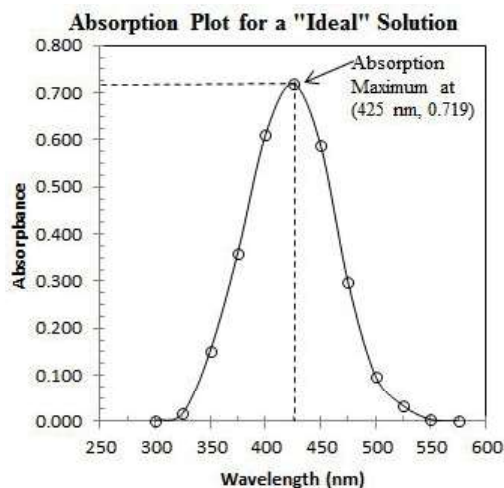

Figure 4.6: Ideal absorbance data and spectrum. Measurements in lab will NOT look this nice. credit: author
Given a colored substance dissolved in a colorless liquid (water), the colored substance will absorb different wavelengths of light. Using a spectrometer one can measure the Absorbance at many different wavelengths to produce an Absorption Spectrum. Figure 4.6 shows data and a typical absorption spectra. Note the Absorption Maximum marked in the data and on the graph. This is the most sensitive part of the spectrum to changes in concentration. In the lab you will measure the spectrum of your compound and determine the Absorption Maximum for it.
6. Plot the entire spectrum of Test Tube 1 for your lab report (Figure 4.6). Determine the Absorbance Maximum. (Attach the spectrum to the end of the Results section.)
1. Attach the absorption spectrum of test tube 3. Draw an arrow pointing to the Absorption Maximum, and label it. In the label include both the value of the wavelength and the value of the Absorption (Figure 4.6).